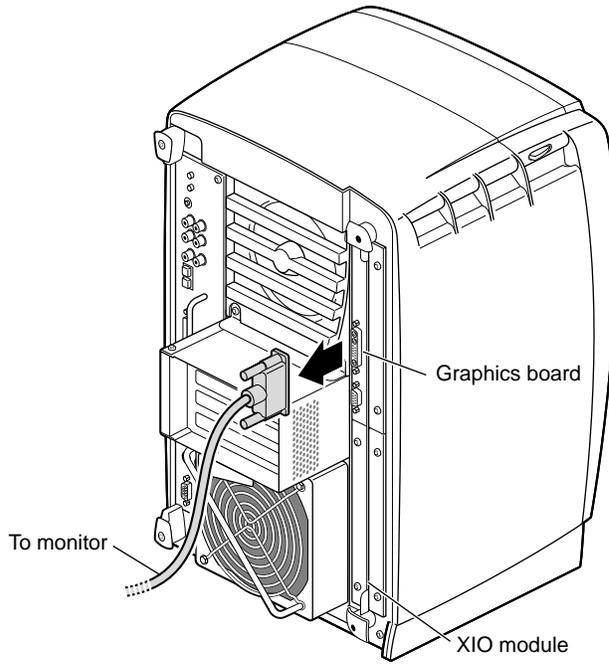

Figure 2-3 Removing the Monitor Cable
5. Remove the monitor cable or other cables from the XIO module. (For illustration purposes, only the monitor cable is shown in Figure 2-3.)
Note: The XIO module is always installed with the graphics board toward the top of the workstation, in the upper left quadrant. See Figure 2-3.